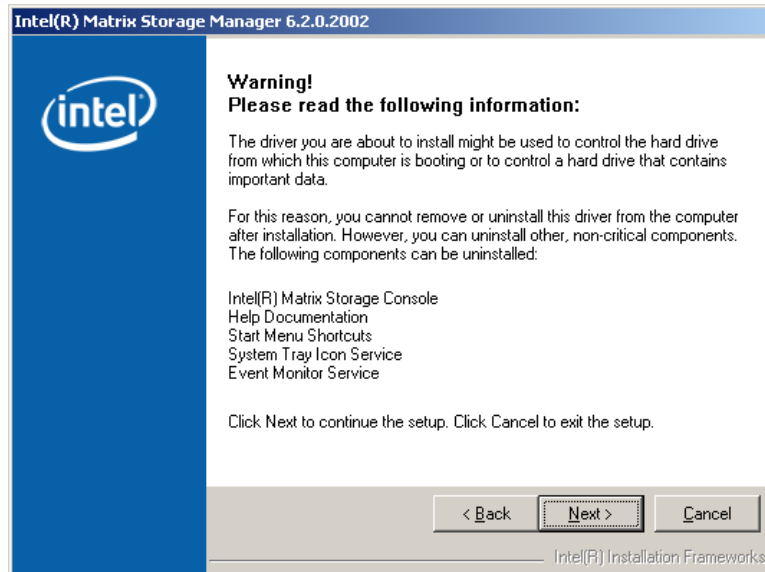

Figure 6-28: Matrix Storage Manager Warning Screen
Step 7: Click **NEXT** and a warning appears (**Figure 6-28**). Read the warning carefully and decide whether or not to continue the installation process.